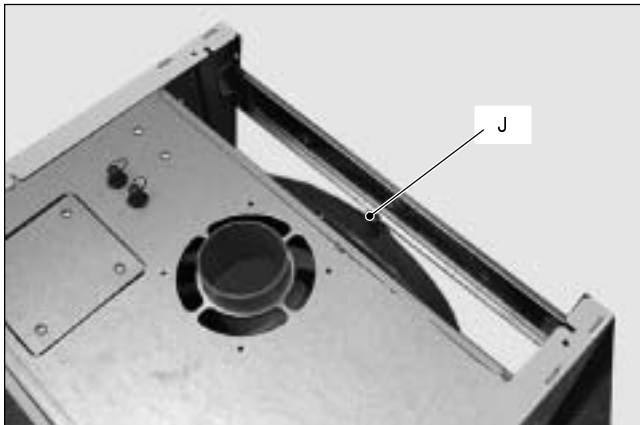

Fig. 53
- 2 Remove the protective cap J (Fig. 53) from the valve on the top of the expansion vessel and connect a suitable air pressure gauge.